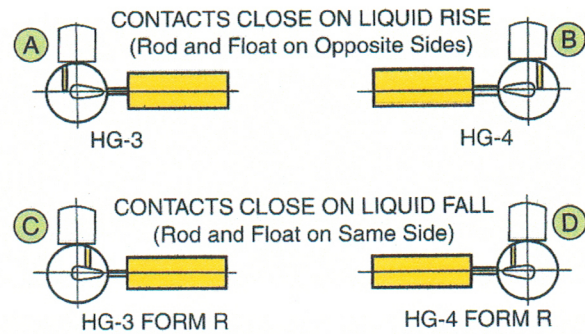

Figure 2
Starting Orientation: Push rod on right side and float on left side (see Figure 2-B).
- Ending Orientation:** Push rod on right side and float on left side (see Figure 2-D).